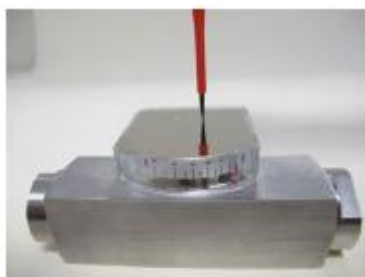

Fig: 36
1. ► Loosen fixing screws on the display cover plate (Fig. 36)